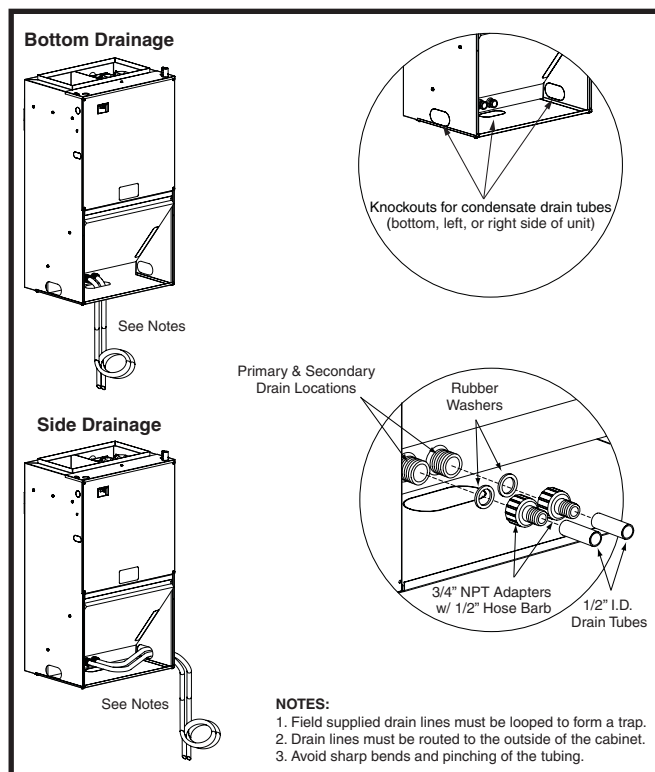

Figure 2. Condensate Drainage
The drain pan that is supplied with this air handler contains a primary and secondary drain fitting. The condensate is drained from the unit through two 3/4" male pipe fittings located on the front side of the unit as shown in Figure 2 (page 8).
- Drain pan **MUST** be drained with field supplied tubing and looped to form a trap. Failure to install a trap could result in condensation overflowing the drain pan, resulting in substantial water damage to surrounding area. Both drains must be trapped separately. See Figure 2.